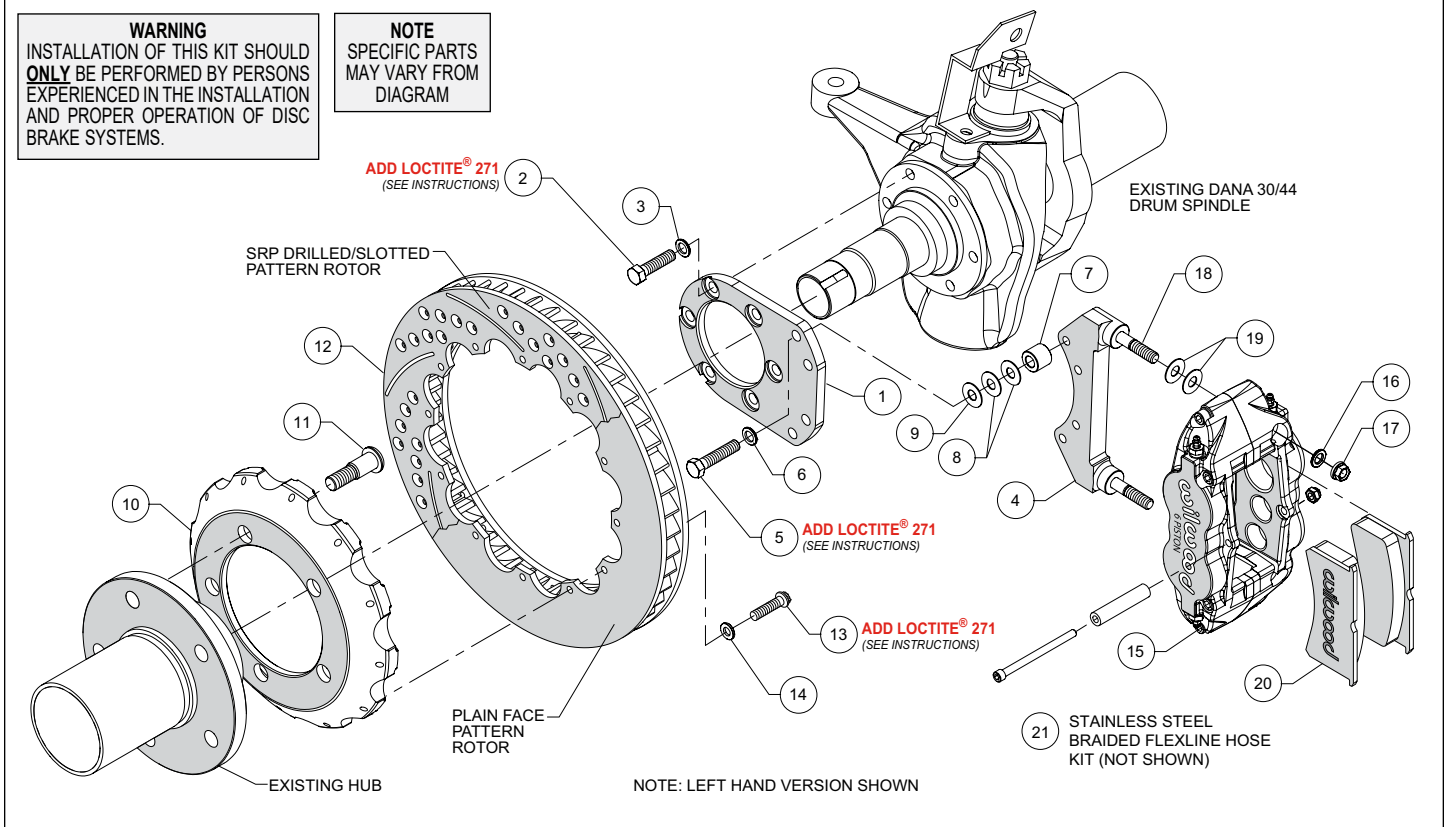

Figure 1. Typical Installation Configuration
**NOTE:** *Numbers in parenthesis refer to the parts list and Figure 1 on the preceding pages.*
- Orient the flat mount bracket (1) as shown in Figure 1 and Photo 1, and install using bolts (2), and washers (3). Ensure that the counterbored holes in the bracket are facing outboard, Figure 1. Temporarily tighten the mounting bolts. **NOTE:** *The bracket must fit squarely against the mount bosses on the upright.* Inspect for interference from casting irregularities, machining ridges, burrs, etc. Remove bolts one at a time, apply red *Loctite*® 271 to the threads and torque to 40 ft-lb.
- The caliper mount bracket (4) should initially be installed with clean, dry threads on the mounting bolts. Orient the bracket as shown in Figure 1 and Photo 2, and install using mount bolts (5) and washers (6). Initially place two .035" thick shims (8) and spacer (7) on each bolt between the flat and caliper brackets, Figure 1. Temporarily tighten the mounting bolts. Later, after the caliper alignment has been checked, the mount bolts will be secured using red *Loctite*® 271.
- Orient the hat (10) and the OEM hub as shown in Figure 1 and Photo 3. **NOTE:** *The hat must fit flush against the axle hub or excessive rotor run out may result.* Install the wheel studs (11) thru the holes in the hat and press into the existing hub. **NOTE:** *We recommend this procedure be performed by a qualified machinist.*
- Orient the rotor (12) and the hat/hub assembly as shown in Figure 1 and Photo 4. Attach rotor to hat using bolts (13) and washers (14). Apply red *Loctite*® 271 to the bolt threads
•**NOTE:** This kit contains distinct right and left hand calipers that must be mounted in a specific direction, as described below. Initially place two .035" thick shims (19) on each stud (18) as shown in Figure 1 and Photo 5. Mount the caliper (15) onto the bracket (4) using lock nuts (17) and washers (16), Figure 1. Temporarily tighten the lock nuts. Ensure that the caliper is mounted so the largest pistons are at the rotor exit end of the caliper, in relation to the direction of the rotor. View the rotor through the top opening of the caliper. The rotor should be centered in the caliper, Photo 6. If not, adjust by adding or subtracting shims (8 and/or 9) between the spindle bracket and caliper bracket. Always use the same amount of shims on each of the four mounting bolts. Once the caliper alignment is correct, remove the bracket to bracket mounting bolts (5) one at a time, apply red *Loctite*® 271 to the threads, and torque to 35 ft-lb.